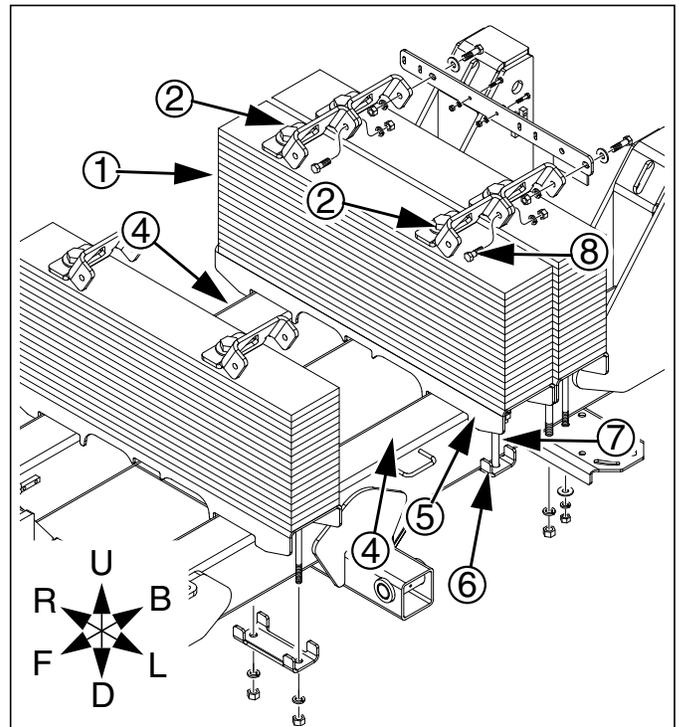

Figure 4
Refer to Figure 4 and Figure 5
2. Remove the two weight bracket bolt channels ⑥ that keep the weights attached to the frame (only the left one is visible in Figure 4). This requires removing the nut and lock washer on the bottom of the bracket securing each $\frac{5}{8} \times 9$ in bolt ⑦.